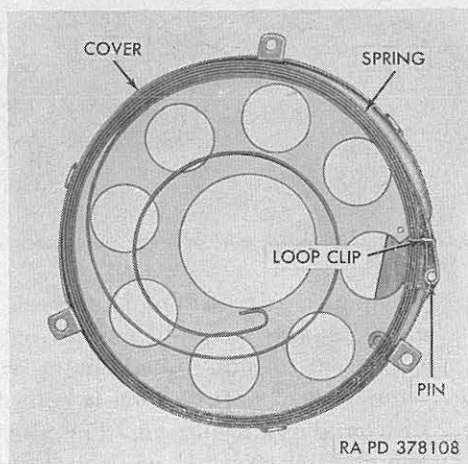

Figure 37. Torsion spiral spring and cover.
- (7) Pull outside end of torsion spiral spring (fig. 37) off pin in spiral spring cover and carefully pull spring from cover. Remove loop clip from spring.
- (1) Push loop clip (fig. 37) onto end of torsion spiral spring, push both onto pin in spiral spring cover and wind spring into cover in position shown in figure 37.